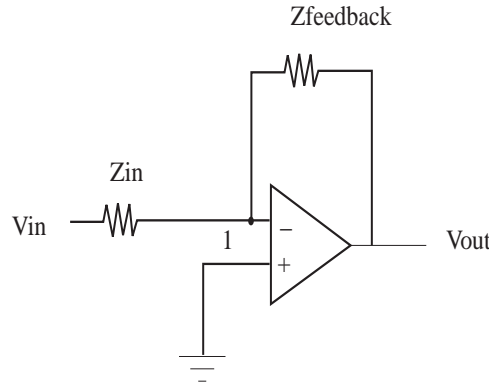

Figure 1: Schematic of an inverting amplifier circuit.
Operational amplifier (op-amps) is one of the most useful integrated circuits available. The schematic of an op-amp consists of three connections (see Figure 1): the inverting input (-), the non-inverting input (+), and the output.
1. The voltage at the inverting input point, “-”, is the same as the voltage at the non-inverting input point “+”. For example, if the point “+” is connected to ground (as shown in Figure 1) then this potential can be considered as zero. Then this statement says that the potential at point “-” is also zero.
2. The current flow between - and + is zero. Hence Kirchoff’s current law states that the sum of the currents entering node 1 (see Figure 1) is zero.